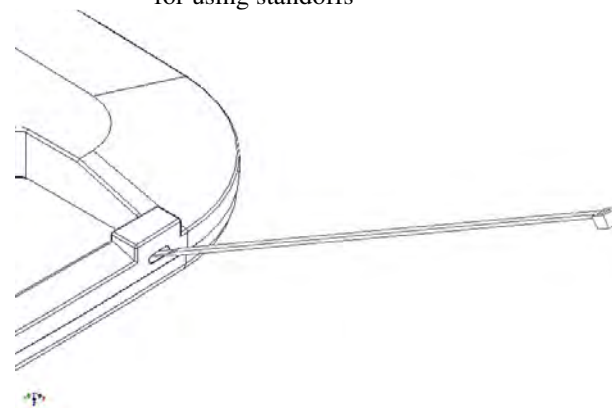

Figure 2 – Insert cable tie through Kensington lock slot
Step 2 - Optional safety tether: To attach the optional safety tether, insert the included cable tie into the Kensington lock slot at an angle toward the top of the access point. There is an opening that will allow the cable tie to pass through (reference *Figure 2*).